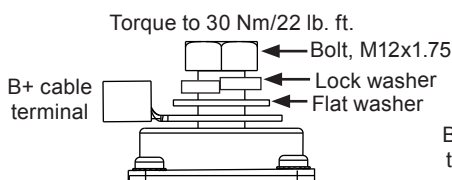

Figure 3: B+ Terminal Hardware Stacking Order
6. Connect vehicle B+ cable to alternator B+ terminal. Install terminal hardware in stacking order shown in Figure 3 and torque to 30 Nm/22 lb. ft.